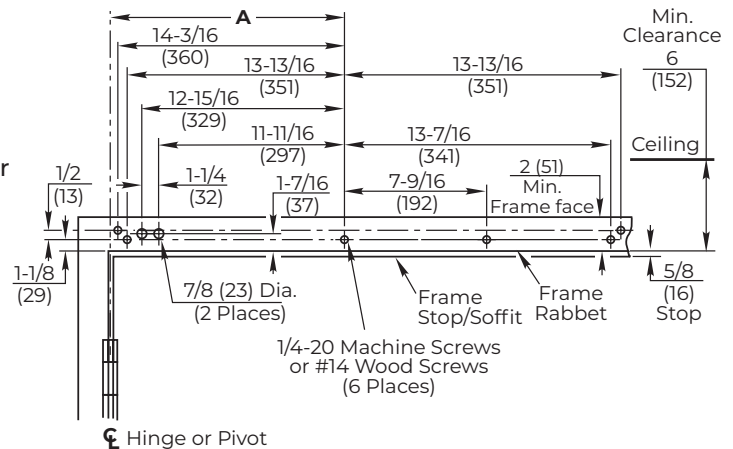

Figure 3 Right Hand Shown
4. Using detailed template on page 19, prepare six (6) holes for 1/4-20 machine screws or 14 x 2-3/4" wood screws. Blind rivet nut (by others) is suggested for unreinforced hollow metal or aluminum frames. (Figure 3)
5. For concealed mounted conduit (if applicable): Prepare two (2) 7/8" (22mm) diameter holes for conduit, for power input and for switch/sensor wires.